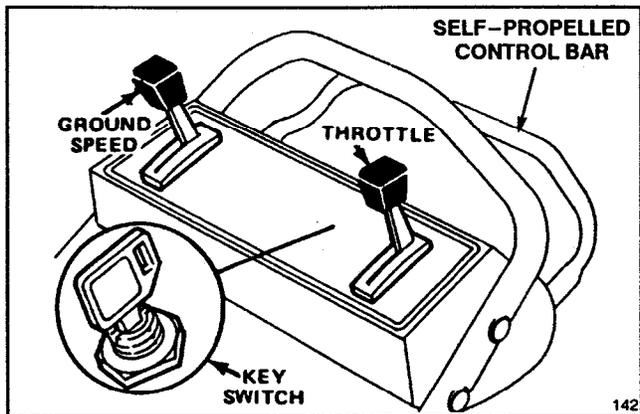
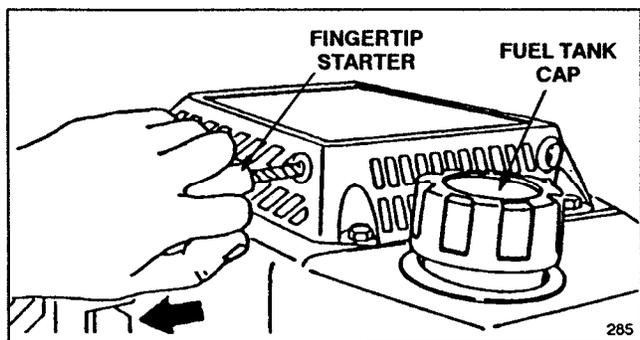

Figure 6
Figure 7
1. Clean around fuel tank cap (Fig. 7) and remove cap from tank. Do not fill tank full. Using unleaded gasoline, fill fuel tank to within 1/4" to 1/2" (6 to 13 mm) from top of tank, not into the filler neck. This space is for expansion of fuel.
1. **CONTROLS**—Key switch (electric start model only), ground speed control, throttle, and blade/self-propelled control bar are on upper handle (Fig. 6). Fingertip starter is on top of engine (Fig. 7).
4a. **KEY-ELECTRIC STARTING** (electric start model only)—Move throttle to **CHOKE**. Turn key to **START** and release when engine begins running. When engine starts, remove throttle from **CHOKE** and regulate engine speed between **FAST** and **SLOW**. If the battery's charge is too weak to start the engine, the engine can be started with the fingertip starter (Fig. 7).
5. **GROUND SPEED** (Fig. 6)—Move ground speed control to desired setting. Number "1" is slow, "2" is medium, and "3" is a fast walking pace. Move